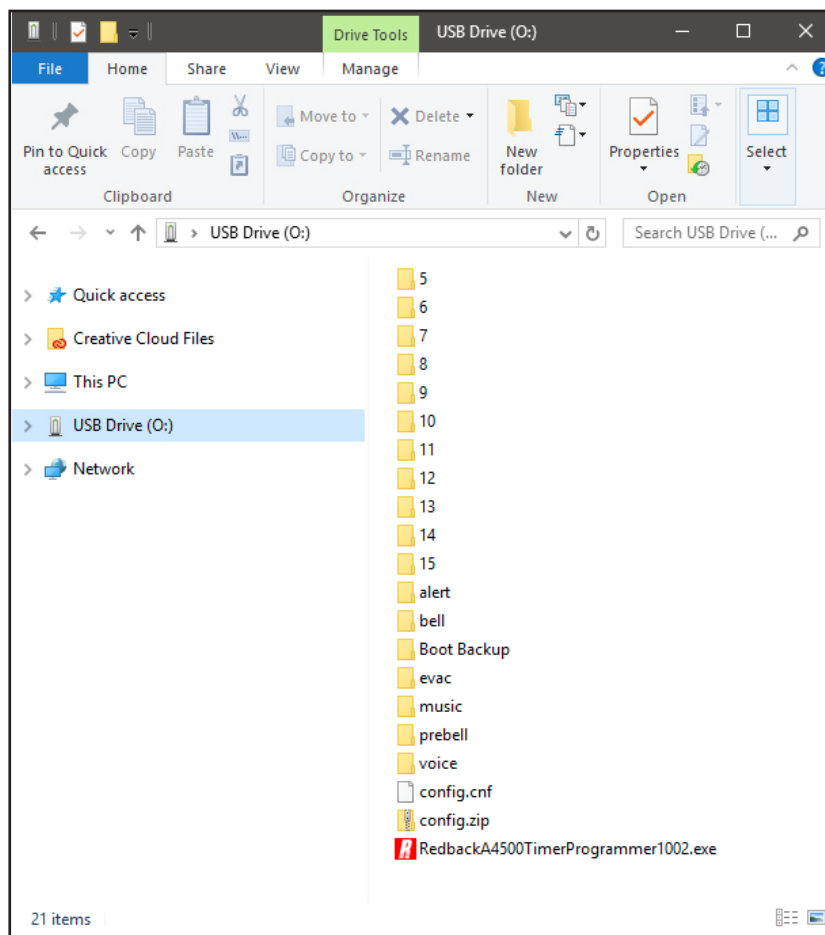

Fig 2.1
For the unit to function correctly, the supplied Micro SD card must be installed and have MP3 files in each of the Alert, Evac and Bell folders. Figure 2.1 below shows the contents of the Micro SD Card.
Step 2: Go to "My Computer" or "This PC" and open the Micro SD card which is usually marked "Removable disk". In this case it is named "Removable disk (O:)". Select the removable disk and then you should get a window that looks like figure 2.1.